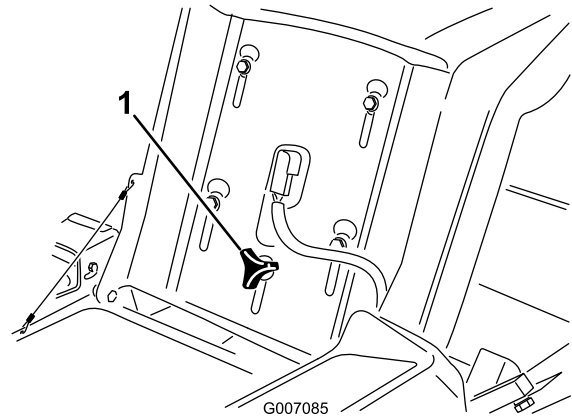

Figure 20
1. Raise the seat and loosen the adjustment knob just enough that seat can move (Figure 20).